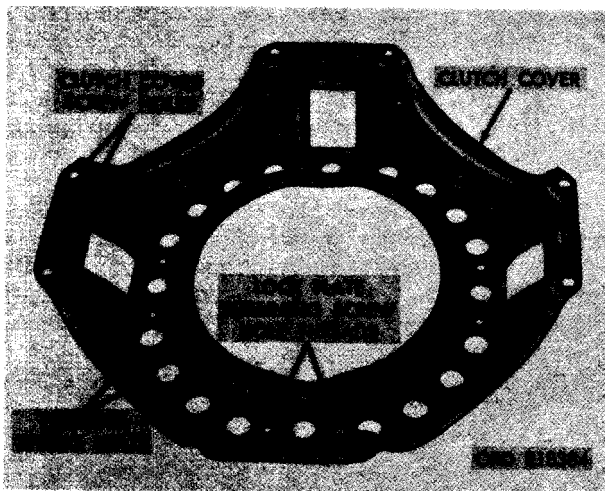

FIGURE 457. INSPECTING CLUTCH COVER PRESSURE SPRING SEATS AND SCREW HOLES.
- (1) Clutch cover. Inspect the clutch cover (B-2) for cracks and distorted mounting flanges. Inspect clutch cover screw holes (fig. 457) for elongation and the lock plate retaining screw hole threads for damage (fig. 457). Inspect the pressure spring seats (fig. 457) for cracks and indentations.